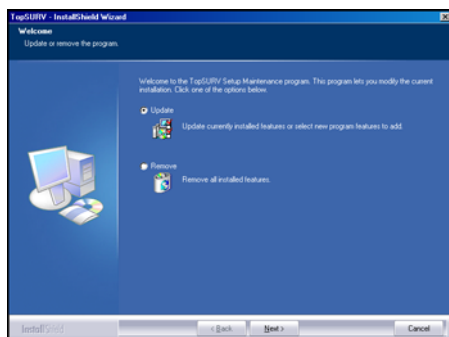

Figure 1-2. Confirm Uninstall
5. After detecting device information, if TopSURV is already installed, the Maintenance wizard prompts to remove the previous installation of TopSURV from your computer (Figure 1-2 on page 1-4). Click **OK**.